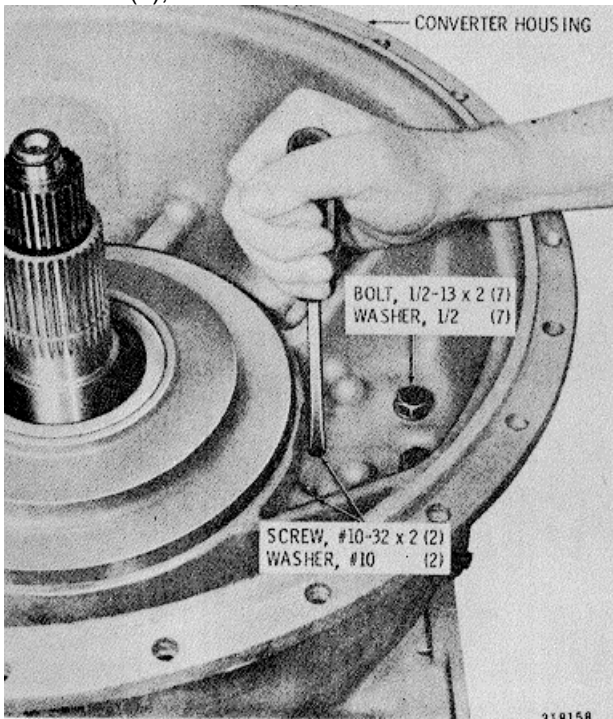

Fig. 5-25 Removing pitot tube or block screws
(1) From inside the converter housing, remove the two screws and washers that retain the pitot tube or (fig. 5-25).
(2) Remove seven bolts and washers from the inside of the converter housing (fig. 5-25).